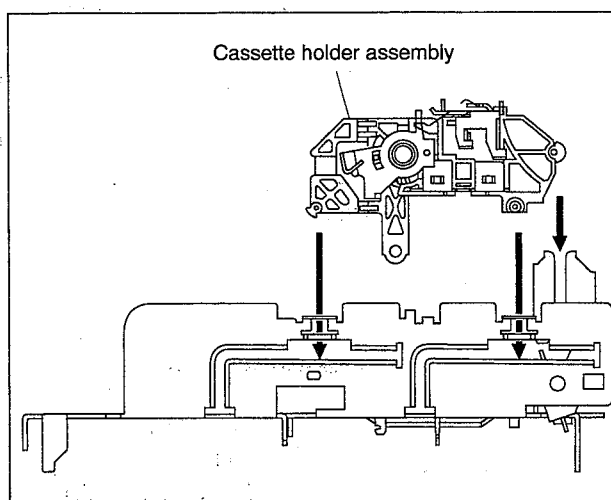
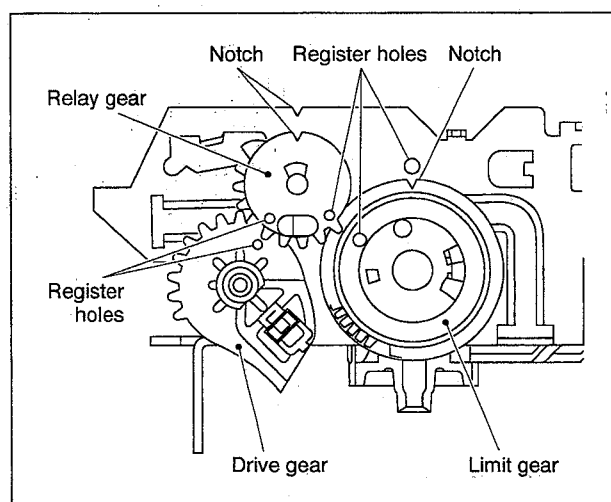

Fig. 2-2-8
Fig. 2-2-9
- (3) Drop the three legs on the left side of the cassette holder into the groove at one time. (See Fig.2-2-8)
- (4) Slide the whole cassette holder toward the front to bring it to the eject end position.
- (5) Install the limit gear so that the notch on the outer circumference of the limit gear is brought into alignment with the register hole on the main deck. (See Fig.2-2-9)
- (6) Install the relay gear so that the notch on the outer circumference of the relay gear is brought into alignment with the register hole at the limit gear. It is important at this stage that the register hole at the limit gear, the register hole at the relay gear and the register hole at the drive gear are all in alignment. (See Fig.2-2-9).
- (7) Install the door stopper, opener guide and cassette holder bracket and fasten the two slit washers.